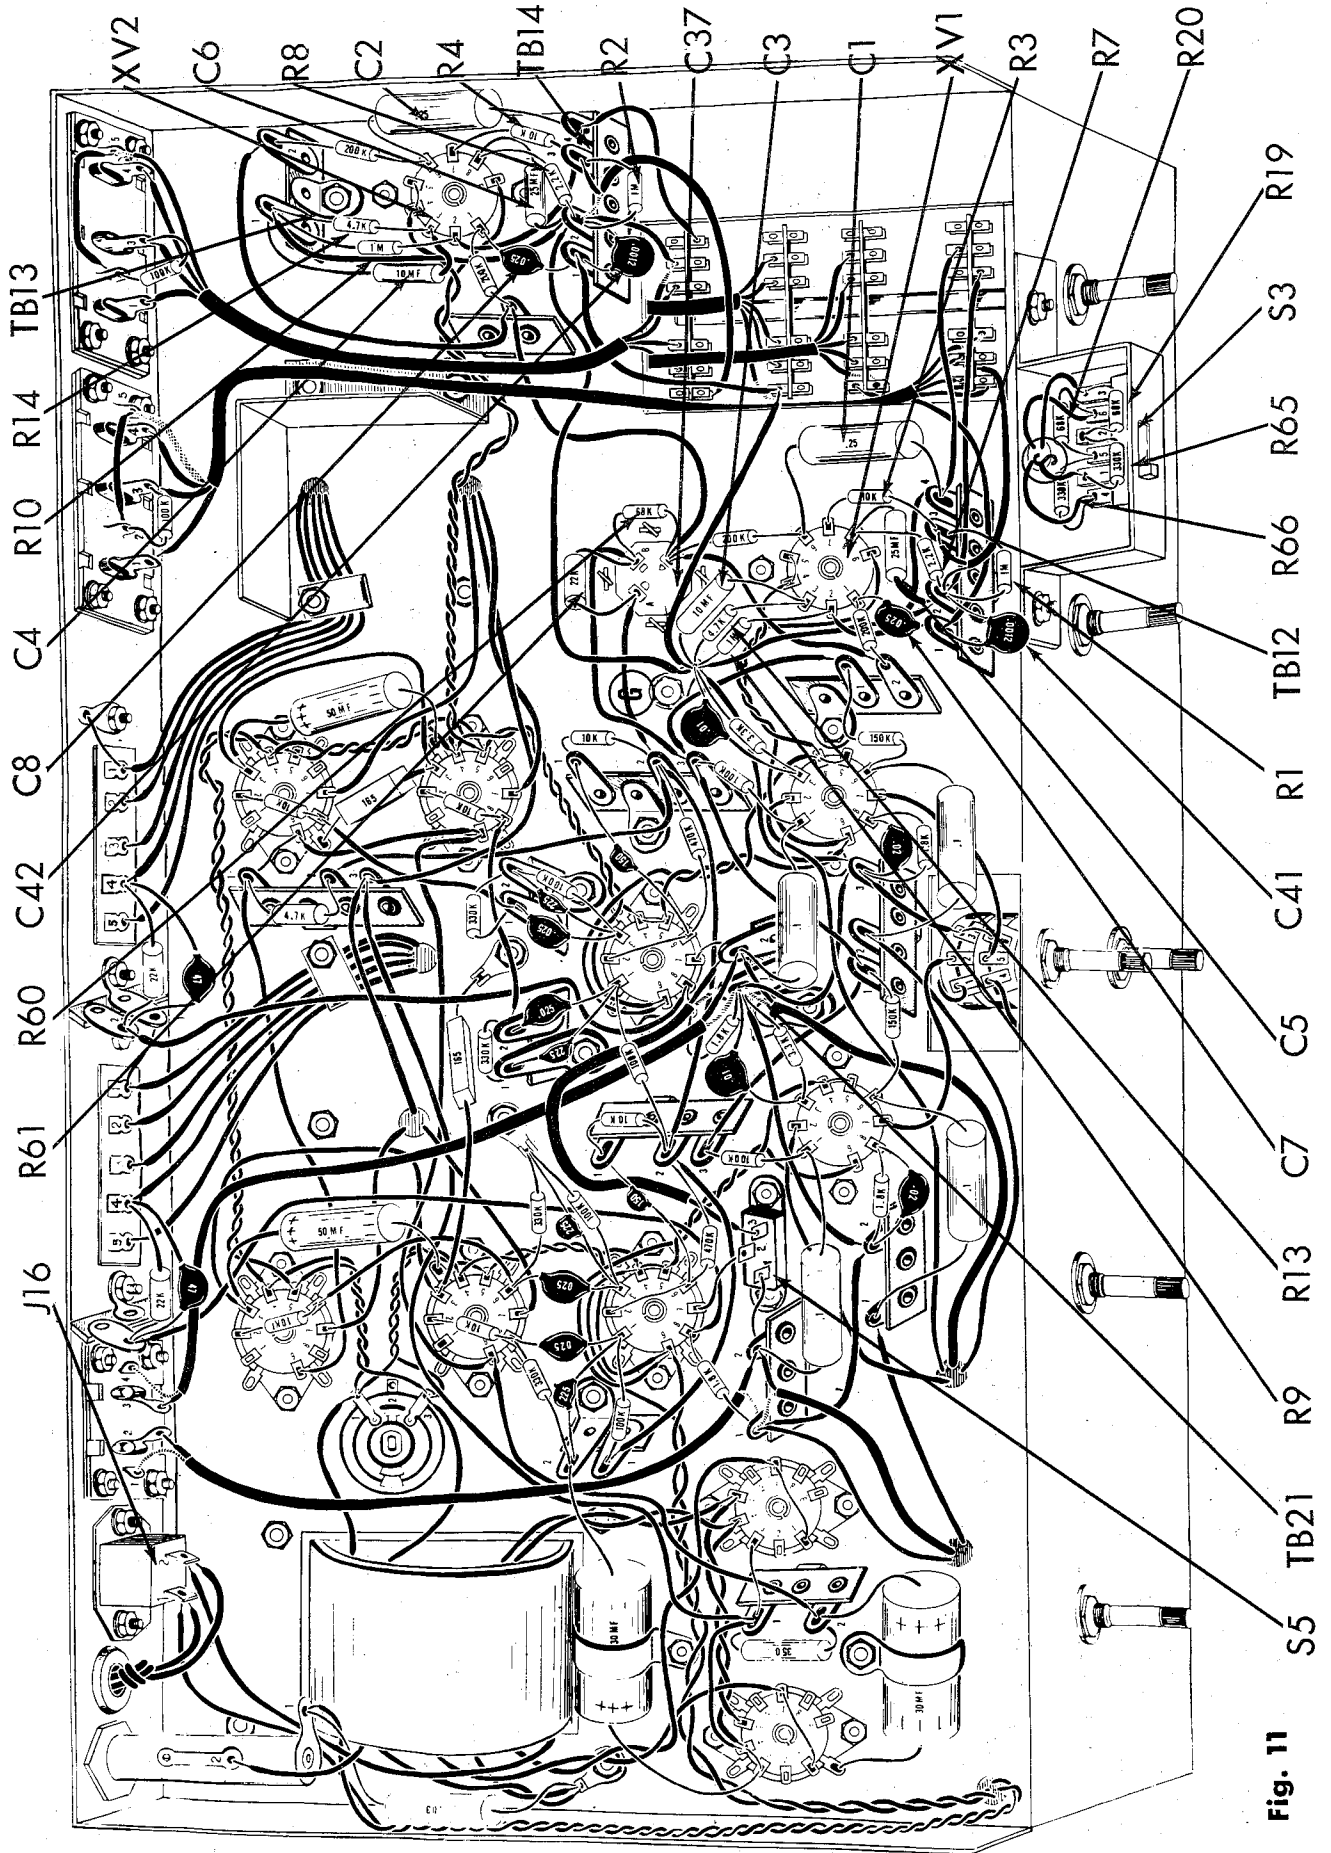

Fig. 11
1. (✓) Fig. 11. Cut all leads on two 25mfd electrolytic capacitors, C5 and C6, to 1" and cover each with a 3/4" piece of spaghetti. Connect the positive (+) end of C5 to XV1-8 (C) and the negative (-) end to TB12-2 (C). Connect the positive (+) end of C6 to XV2-8 (C) and the negative (-) end to TB14-2 (C).
2. (✓) Fig. 11. Cut all leads on two 2.2KΩ (red, red, silver) resistors, R7 and R8, to 3/4" and cover each lead with a 1/2" piece of spaghetti. Connect R7 from XV1-8 (S2) to TB12-2 (C). Connect R8 from XV2-8 (S2) to TB14-2 (C).
3. (✓) Fig. 11. Cut the ground end (if the capacitor is so marked with a line) of two .25mfd paper capacitors, C1 and C2, to 1". (If it is not marked, cut either end to 1".) Connect this end of C1 to XV1-6 (S2) and this end of C2 to XV2-6 (S2). Cut the other end of both capacitors to 3/4". Connect this end of C1 to TB12-4 (S3) and this end of C2 to TB14-4 (S3).
4. (✓) Fig. 11. On two 10KΩ (brown, black, orange, silver) resistors, R3 and R4, cut one lead to 1/2" and the other lead to 3/4". Connect the 1/2" lead of R3 to XV1-7 (S1) and the 3/4" lead to TB12-3 (C). Connect the 1/2" lead of R4 to XV2-7 (S1) and the 3/4" lead to TB14-3 (C).
5. (✓) Fig. 11. Cut both leads on two 1MΩ (brown, black, green, silver) resistors, R1 and R2, to 1/2". Connect R1 from TB12-3 (S3) to TB12-2 (C). Connect R2 from TB14-3 (S3) to TB14-2 (C).
6. (✓) Fig. 11. Cut all leads on two .0012mfd (1.2K or 1200mmf) disc capacitors, C41 and C42 to 1/2". Connect C41 from TB12-1 (C) to TB12-2 (S7). Connect C42 from TB14-1 (C) to TB14-2 (S8).
7. (✓) Fig. 11. Cut all leads on two .025mfd (25K or 25,000mmf) disc capacitors, C7 and C8, to 3/4". Connect C7 from XV1-1 (S2) to TB12-1 (S3). Connect C8 from XV2-1 (S2) to TB14-1 (C).
8. (✓) Fig. 11. Cut all leads on two 10mfd, 6 volt electrolytic capacitors, C3 and C4, to 3/4". Cover each lead with a 1/2" piece of spaghetti. Connect the positive (+) end of C3 to XV1-3 (C) and the negative (-) lead to ground lug "G" (C). Connect the positive (+) end of C4 to XV2-3 (C) and the negative (-) lead to TB13-1 (C).
9. (✓) Fig. 11. Cut both leads on one 4.7KΩ (yellow, violet, red, silver) resistor, R14 to 1/2" and both leads on a second 4.7KΩ resistor, R13, to 3/4". Connect R14, (with the shorter leads) from XV2-3 (S2) to TB13-1 (C). Connect R13 (with the longer leads) from XV1-3 (S2) to ground lug "G" (C).
10. (✓) Fig. 11. Cut all leads on two 1MΩ (brown, black, green, silver) resistors, R9 and R10, to 3/4". Cover both leads with a 1/2" piece of spaghetti. Connect R9 from XV1-2 (S2) to ground lug "G" (C). Connect R10 from XV2-2 (S2) to TB13-1 (S4).
11. (✓) Fig. 11. Cut both leads on a 22KΩ (red, red, orange, silver) 1 watt resistor, R61 to 3/4". Connect from C37-A (S2) to C37-B (C).
12. (✓) Fig. 11. Cut both leads on a 68KΩ (blue, grey, orange, silver) resistor, R60, to 1/2". Connect from C37B (S3) to C37C (S4).
13. ( ) Fig. 11. Cut all leads on two 68KΩ (blue, grey, orange, silver) resistor, R19 and R20 to 1/2". Connect R19 from S3-2 (C) to S3-3 (C). Connect R20 from S3-5 (C) to S3-6 (C).
15. (✓) Fig. 11. From hole "S" connect the white lead to S3-6 (S2), the brown lead to S3-4 (S2), the blue lead to S3-3 (S2) and the green lead to S3-1 (S2).
17. (✓) Fig. 11. Connect the brown lead from S1F-8 to TB14-1 (S3).
18. (✓) Fig. 11. Connect the black lead from S1F-6 to ground lug "G" (S9).
19. (✓) Fig. 11. Connect a 1" piece of bare wire from S5-2 (S1) to XV5-7 (S1).
20. ( ) Fig. 11. Strip back the outer insulation on both ends of a 5" piece of single-conductor cable 1/2". Twist the shield strands. Strip back the insulation on the inner conductor on both ends 1/4". On one end, cut the shield strands and connect the inner conductor to S5-3 (S1). On the other end, connect the twisted shield strands to TB21-1 (S8) and the inner conductor on the same end to TB21-2 (S5).
21. ( ) Fig. 11. Mount the top shield as shown in insert on figure 4. Use two #6 lockwashers and two #6-32 hex nuts.